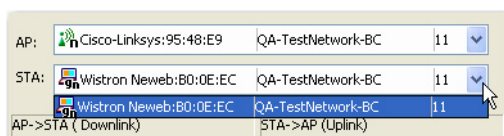

Figure 17-6: Selecting an AP
- 2) From the top of the screen, select a AP and station, as shown in Figure 17-6.